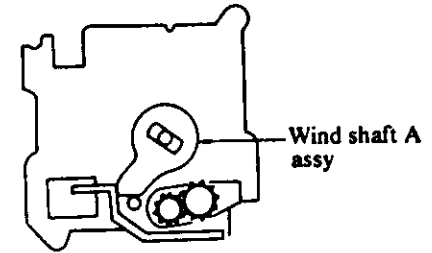

Fig. 40
- 2) Set the WIND SHAFT A ASSY to the film counter as shown in Fig. 40.